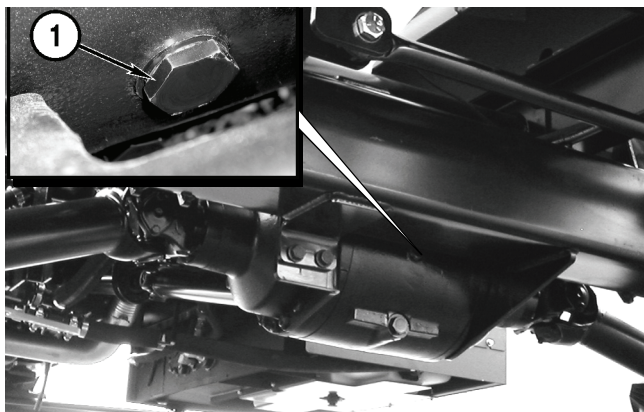

Figure 5-37
The differential is located under the Apache Sprayer, on the rear axle. The fill/level plug (**Figure 5-37, 1**) is directly above the drain plug on the rear of the differential.
3. Remove the differential fill/level plug (**Figure 5-37, 1**).
5. Install the fill/level plug (**Figure 5-37, 1**) and tighten.